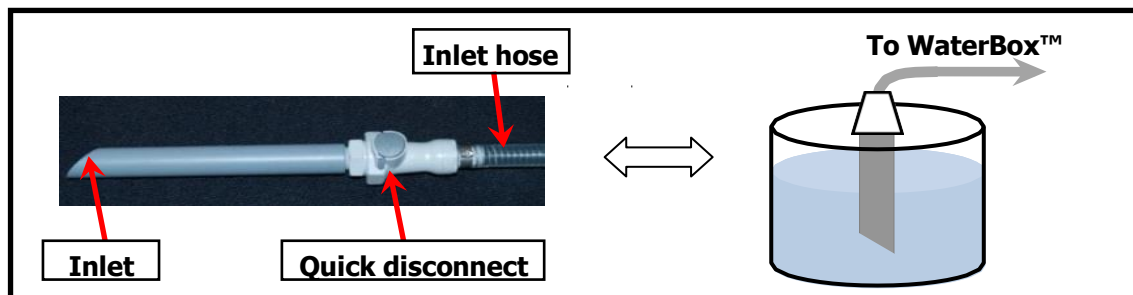

Figure 5: Schematic of the use of adaptor intake device.
- B **Option #2: Adaptor Intake.** The adaptor intake is designed for drawing water from a container or a deep body of water and is positioned as shown in Figure 5.